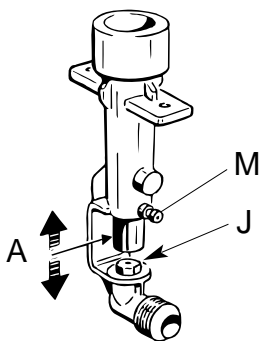

Fig. 8.6
- Loose the screw "M" of each injector and fully raise the adjusting air tube "A" (fig. 8.6).